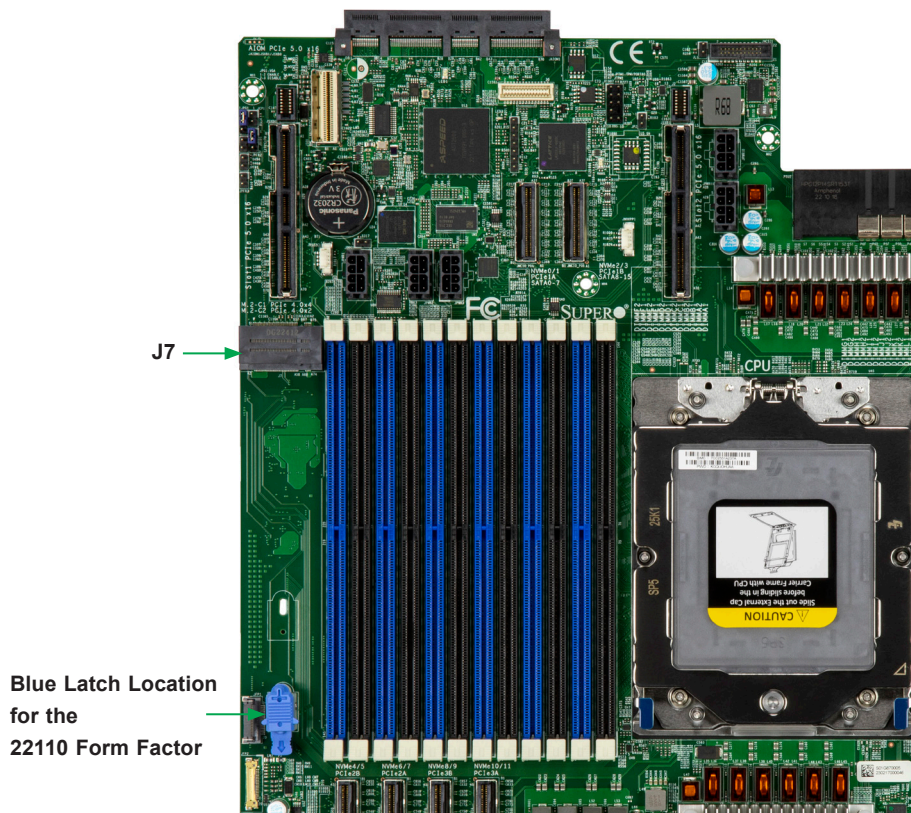

Figure 3-7. M.2 Slot and Latch Location
3. Insert a PCIe Gen 3 x4 M.2 SSD into the lower J7 slot. Next, follow the instructions from ❶ to ❸ in Figure 3-7.
4. Insert a PCIe Gen 3 x2 M.2 SSD into the upper J7 slot. Next, follow the instructions from ❹ to ❺ in Figure 3-7.